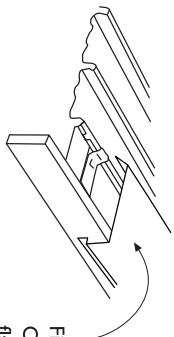

Figure 6.
- 3. Cover the gap with a flashing, attaching it to the sheet using a flashing angle. (see fig 6) Positive fixing may be advised.